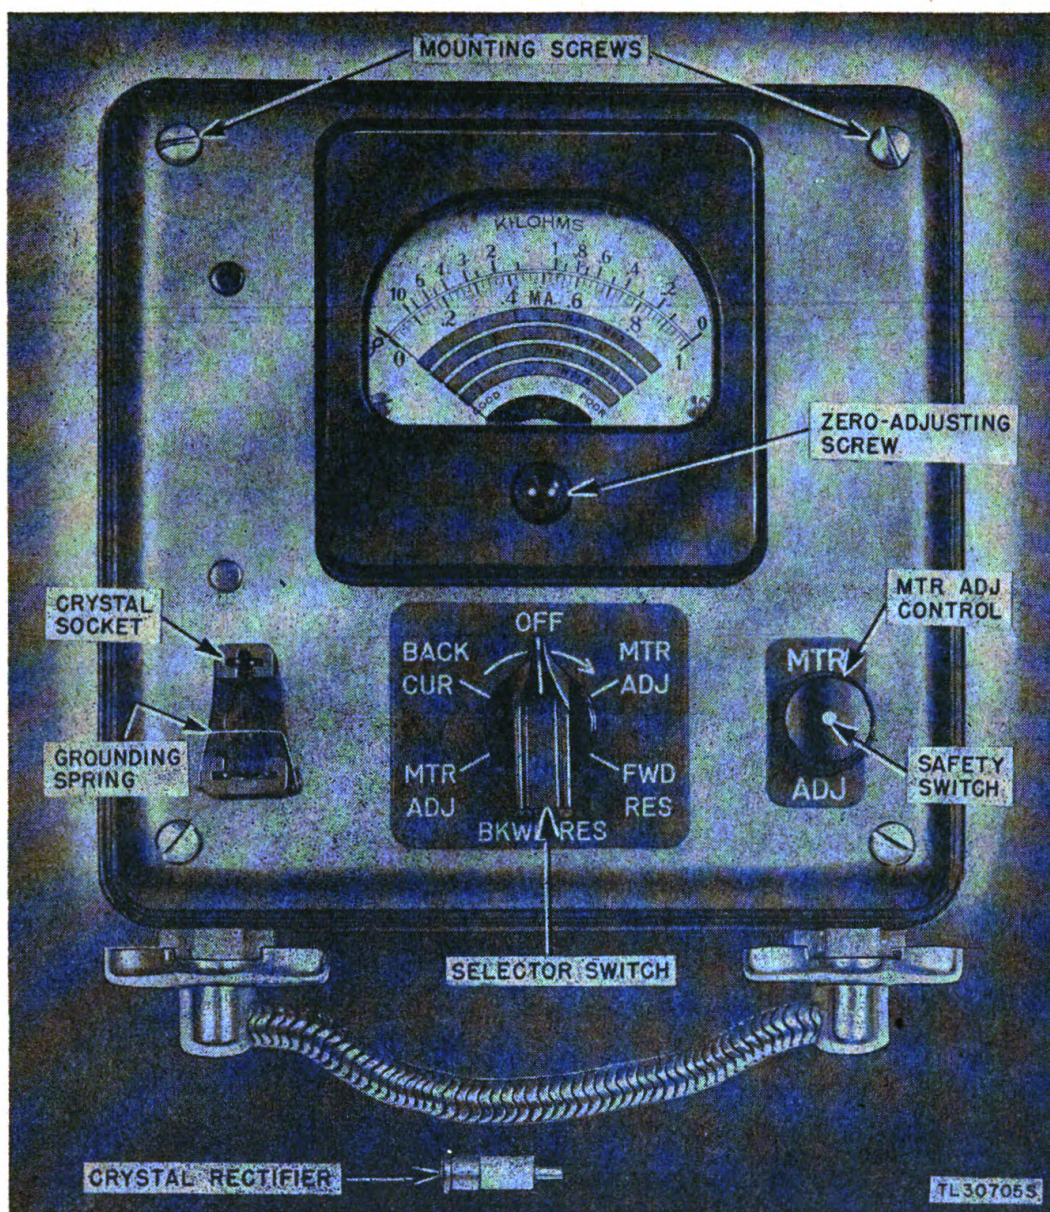

Figure 3. Front panel of test set.
Crystal Rectifier Test Set TS-268/U (fig. 1) is designed to make speedy qualitative tests on specific types of high-frequency crystal rectifiers. The test set is completely self-contained in a waterproof aluminum case approximately 3 inches high by 6 inches wide by 7 inches deep (fig. 2). On the front panel of the instrument (fig. 3) are mounted a crystal socket, a circuit selector switch, a meter adjusting control, and a specially calibrated 0-1 direct-current (d-c) milliammeter. A grounding spring is incorporated in the crystal socket in order to prevent damage to the crystal while it is being inserted into the circuit of the test set.
b. The control marked MTR ADJ in the lower right section of the instrument panel adjusts the meter pointer to the zero mark on the scale when the circuit selector switch is in either of the two MTR ADJ positions (fig. 3). The MTR ADJ control has a built-in automatic shut-off switch which is actuated when the case cover is closed. The operation of this switch opens the battery circuit, thereby eliminating the possibility of leaving the equipment turned on when it is not being used, with consequent drain on the battery.
a. A crystal rectifier usually consists of a small piece of silicon in contact with a thin tungsten wire (called "catwhisker") both mounted in a small cartridge-like container (fig. 3). Rectification, which occurs at the contact point between the crystal and the catwhisker, takes place because the resist-
To test a crystal rectifier of normal polarity (see par. 8 for crystals of reverse polarity), rotate the circuit selector switch **clockwise** to the positions shown on the instrument panel (fig. 3). The indications are obtained on the meter. Follow the step-by-step procedure outlined below: